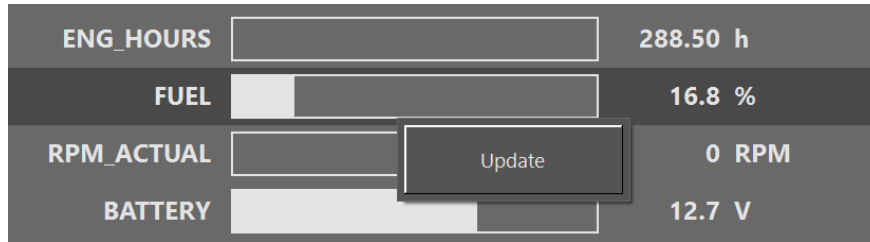

Figure 2.8: Per-metric update button.
2. Press this newly-visible **Update** button. Figure 2.8 on page 17 shows this button.